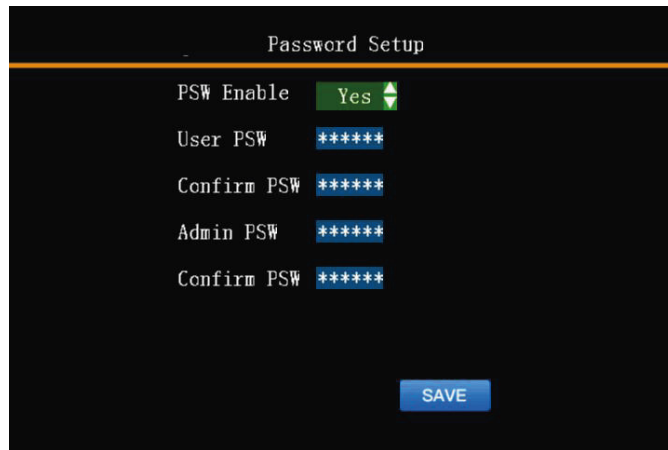

Figure 3-10
3.2-3 Password Setup (Figure 3-10)